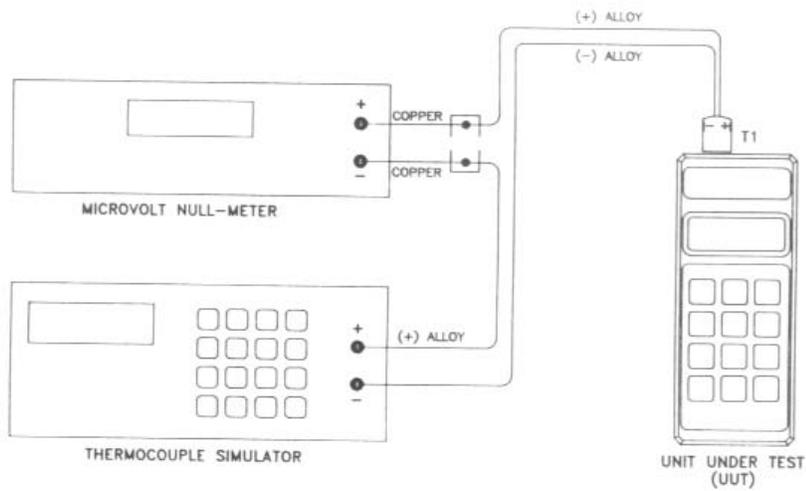

Fig. 3 — Calibration Setup, Calibrator Mode
32. Connect U.U.T. to test-equipment per Figure 3 (page 43) using the K calibration-cable.